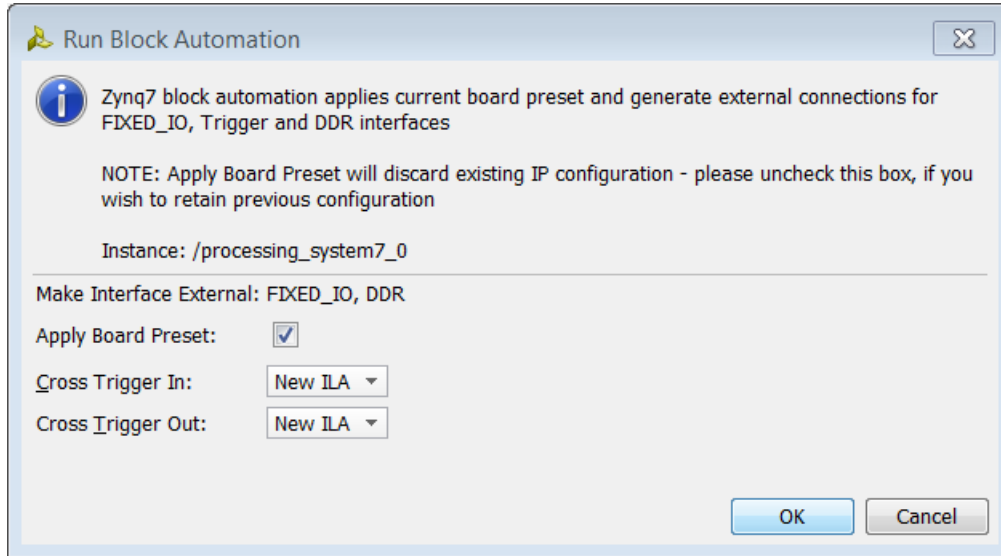

Figure 54: Run Block Automation Dialog Box
7. Enable the Cross Trigger In and Cross Trigger Out functionality by setting those fields to **New ILA**, then click **OK** (**FIGURE 54**).
This instantiates an ILA core in the design and also connects the TRIGGER_IN_0 and TRIGGER_OUT_0 interface pins of the PS7 to the ILA. The automation also connects the DDR and FIXED_IO interface pins to external I/O ports (**FIGURE 54**).